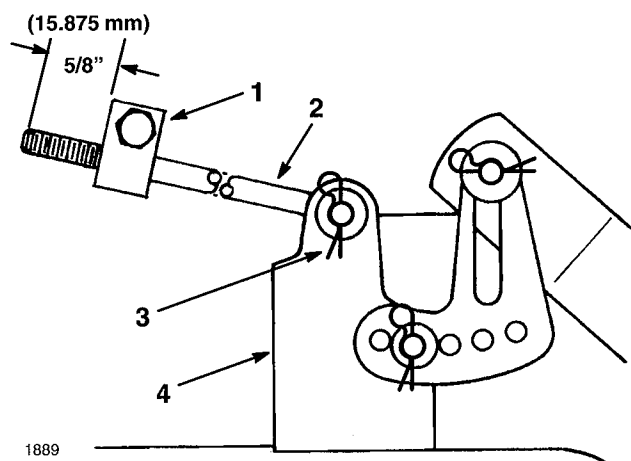

Figure 51
3. Measure the length of the rod extending out the front of the adjusting block on the sides of the chassis (Fig. 51). If the rod length is not 5/8" (15.875 mm), remove the hair pin cotter and washer from the end of the rod (Fig. 51), and turn the rod until the 5/8" (15.875 mm) dimension is obtained. Then install the end of the rod into the hole in the mower mount and secure in place with washer and hair pin cotter. Repeat this procedure on the opposite side of the mower.